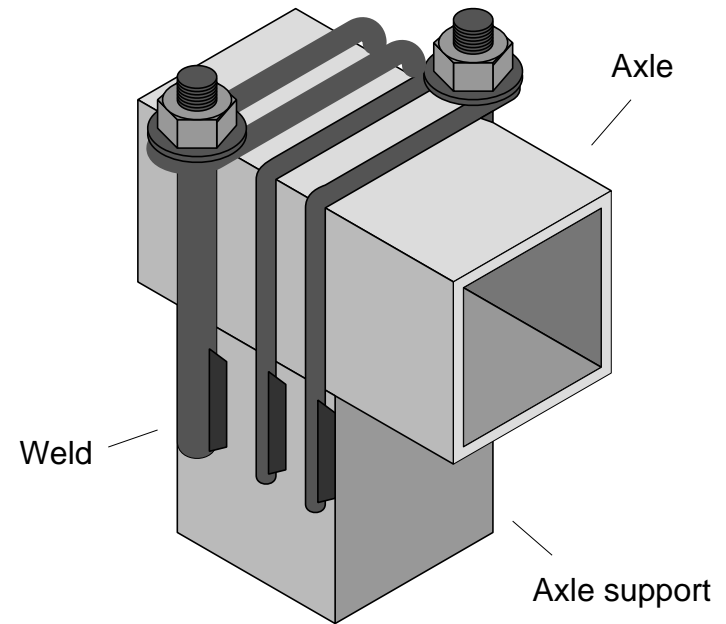

Figure 7: method of fixing axle to axle supports.
- 5) Next fix the axle with a one or two loops of round bar and some threaded rod and nuts and washers as shown in Figure 7. If you can get big threaded rod (say 16 mm and some 10 mm plain rod, you can fix the axle with one loop and threaded rod, but if you have only 12 mm then you must use two loops as shown.